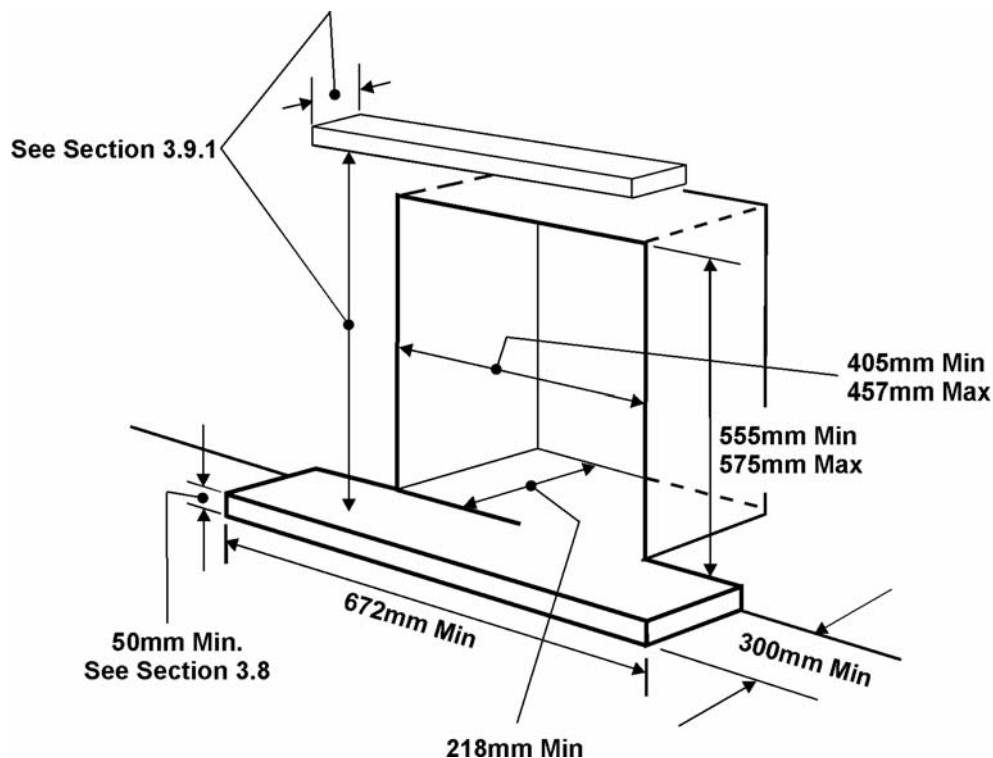
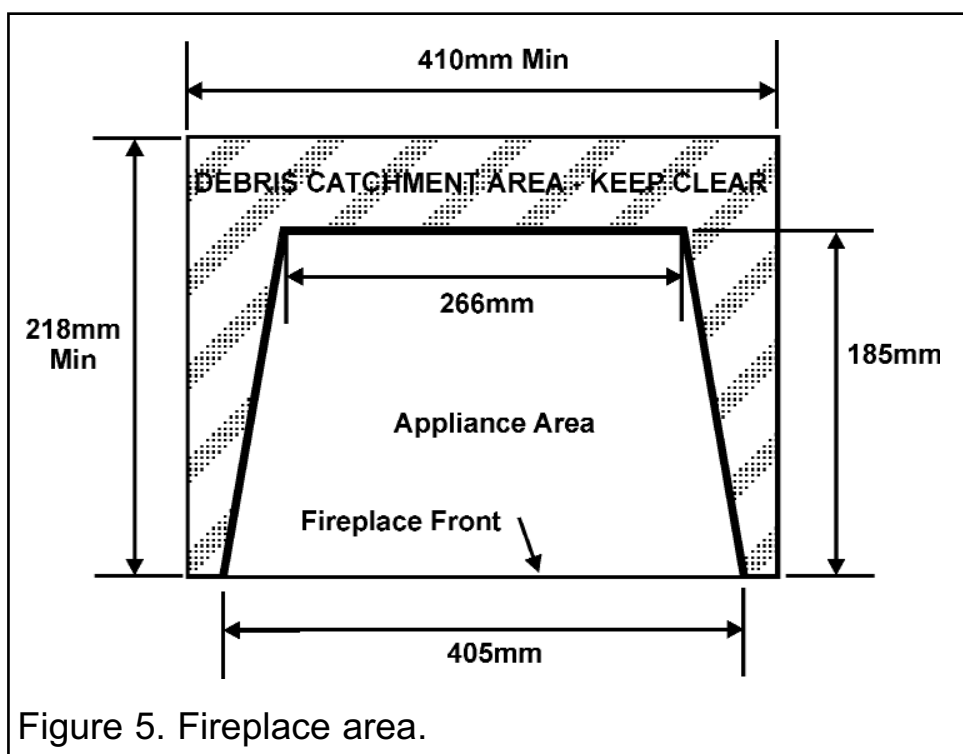

Figure 4. Hearth and fireplace opening dimensions.
Figure 5. Fireplace area.
To a fireplace complete with surround and hearth as shown in figure 4 and complying with BS1251 after removal of the fireback and sufficient material behind the fireback for a debris catchment space. The required fireplace, hearth, debris catchment area and clearance dimensions are shown in figure 5.
- It is recommended that a hearth should be installed as in figure 4.